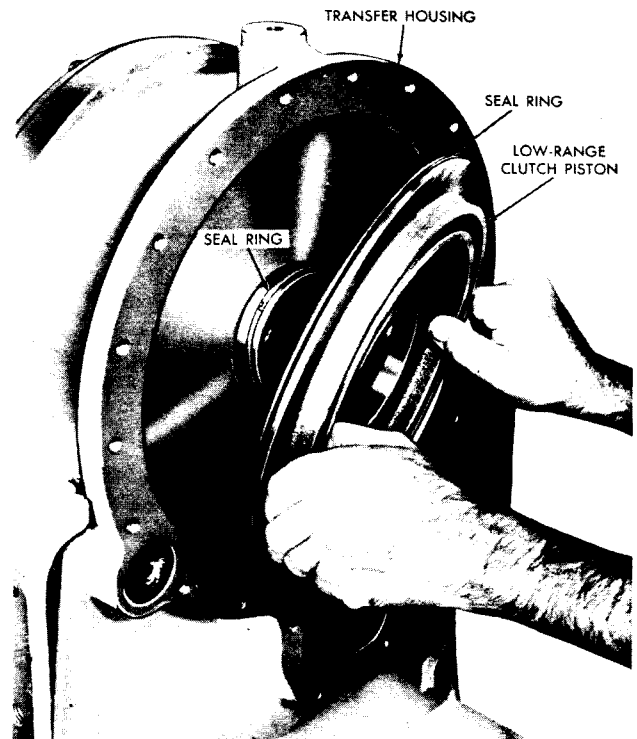

Fig. VII-10. Installing low-range clutch piston 52444
(32) If the transmission is equipped with an upper- or lower-rear output disconnect, it will be installed later. Refer to p or q, below.
(33) Install the hook-type seal ring into the groove at the front of the transfer housing (fig. VII-10).
(34) Install the low-range clutch piston assembly (fig. VII-10).